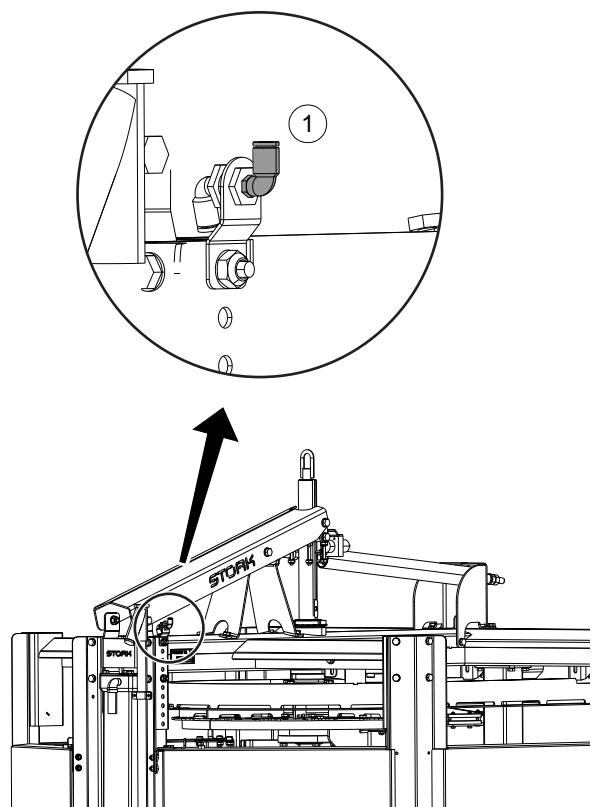

fig. 21 Connect compressed air
- Connect point **1** to the compressed air system. For connection and consumption details consult the "Technical Data". See fig. 21.